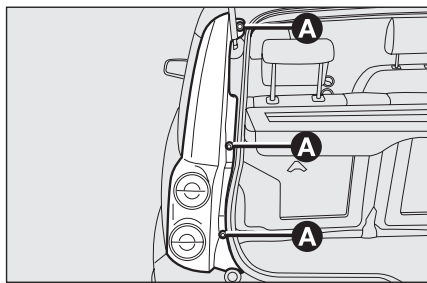

fig. 22
- ☐ loosen the three screws **A-fig. 22** then pull gently the headlight outwards until releasing it from the three catches;